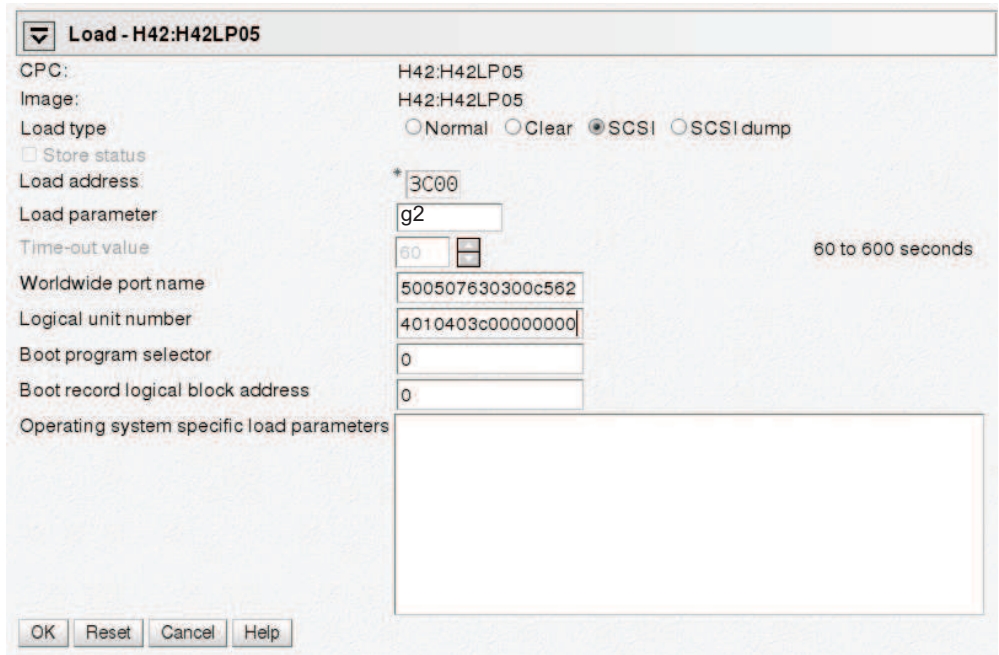

Figure 17. Load panel with SCSI feature enabled - for booting from a SCSI device
4. Select load type **SCSI** (see Figure 17).